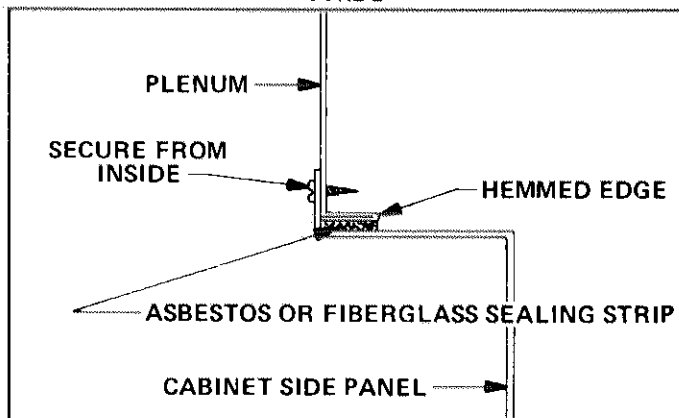

FIGURE 3
- 4 - In closet installations, it may be impossible to install sheet metal screws from the outside. If this is the case, make plenum with a removable front and install screws from the inside. See Figure 3.